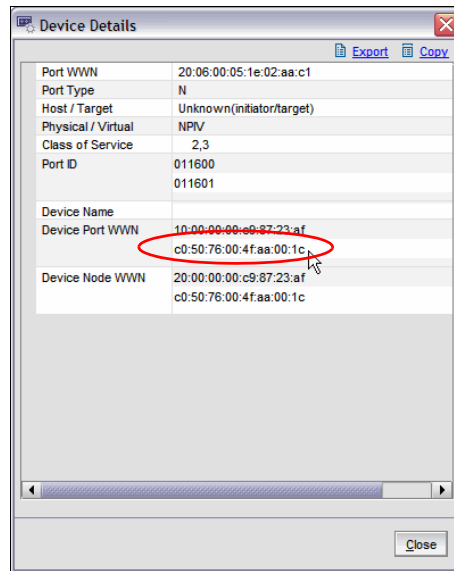

Figure 2-13 SAN port device details
- d. The panel shown in Figure 2-13 is displayed.